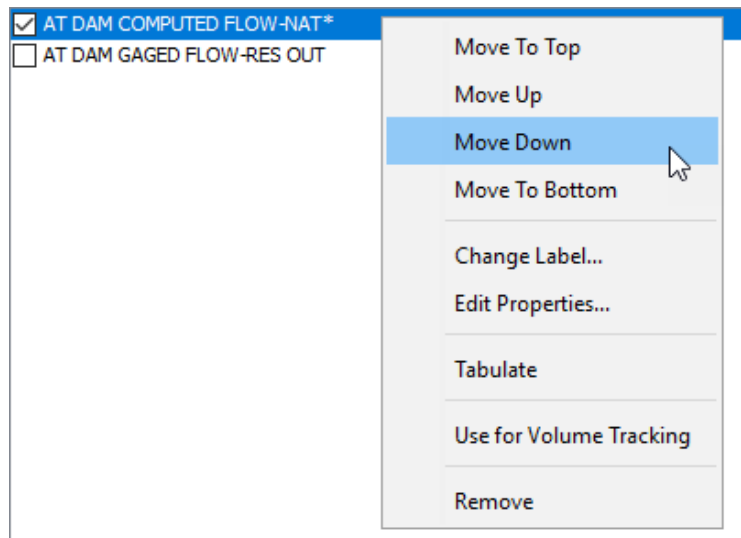

Figure 6. Reordering time series.
- Data List - Reorder. Right-click menu options were added that allows users to reorder the data list of RPT applications. The data list order controls plot order, which makes this a useful enhancement for visualization purposes (Figure 6).